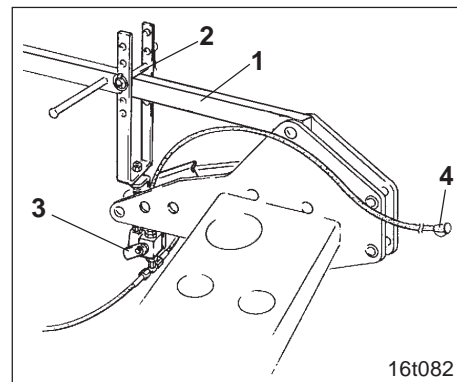

Fig. 13.8
When the seed drill is raised by the lifting frame, the top link (Fig. 13.8/1) pushed against the pin (Fig. 13.8/2) and closes the valve (Fig. 13.8/3) that interrupts the flow of oil to the rams.
2. **For road transport the pin (Fig. 13.8/2) must be removed so that the seed drill can be fully raised by the lifting frame.**